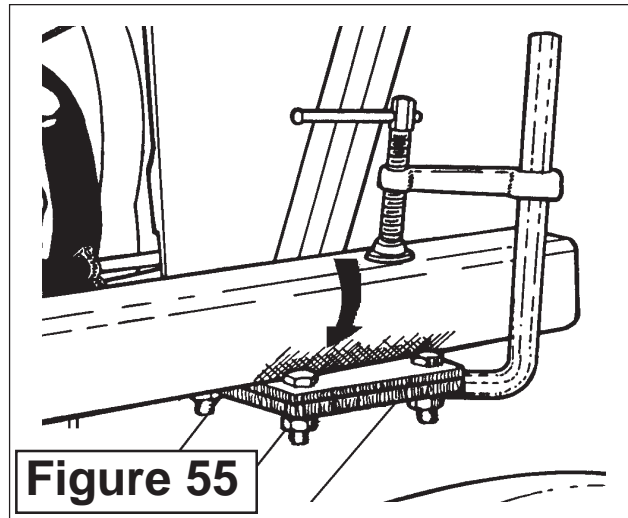
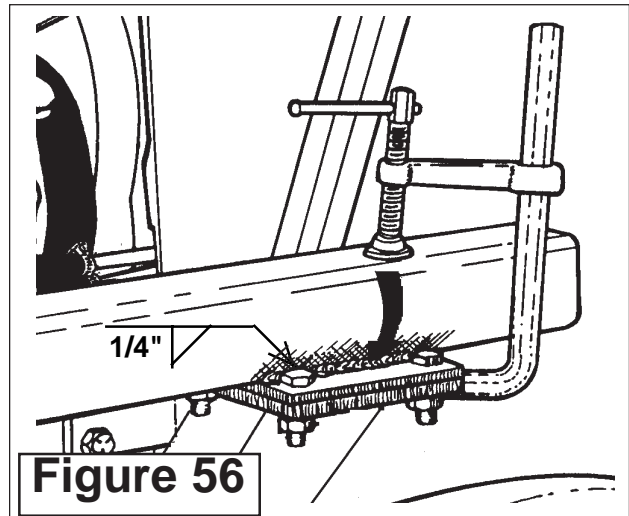

Figure 55
Figure 56
6. The Side Rails. These Frame rails will be welded to the Rail Support Plates, so it will be necessary to scrape the paint off approximately 5/8" of the base before attaching. Clamp Side Rails to Front Mount Supports. (See Figure 55). Tack-weld rails to Front Mount Brackets. After thorough check for horizontal and parallel location, weld a solid 1/4" fillet weld bead 8" long on both sides. (See Figure 56). Note that any Step Type Counter Weight must clear the Left Rear Tire.
2. Install the Bolts into the rear Axle Housing to support the rear of the frame rails. This is the same for LH & RH. Snug the Bolts only. Do not tighten them yet because the frame rails will have to be moved around to align all the Bolt Holes. (See Figure 56). The RH rear Frame Rail Mounting will need the Bolts removed to install the Axle Mounted Boom Rest (See figure 5, 6 & 7).